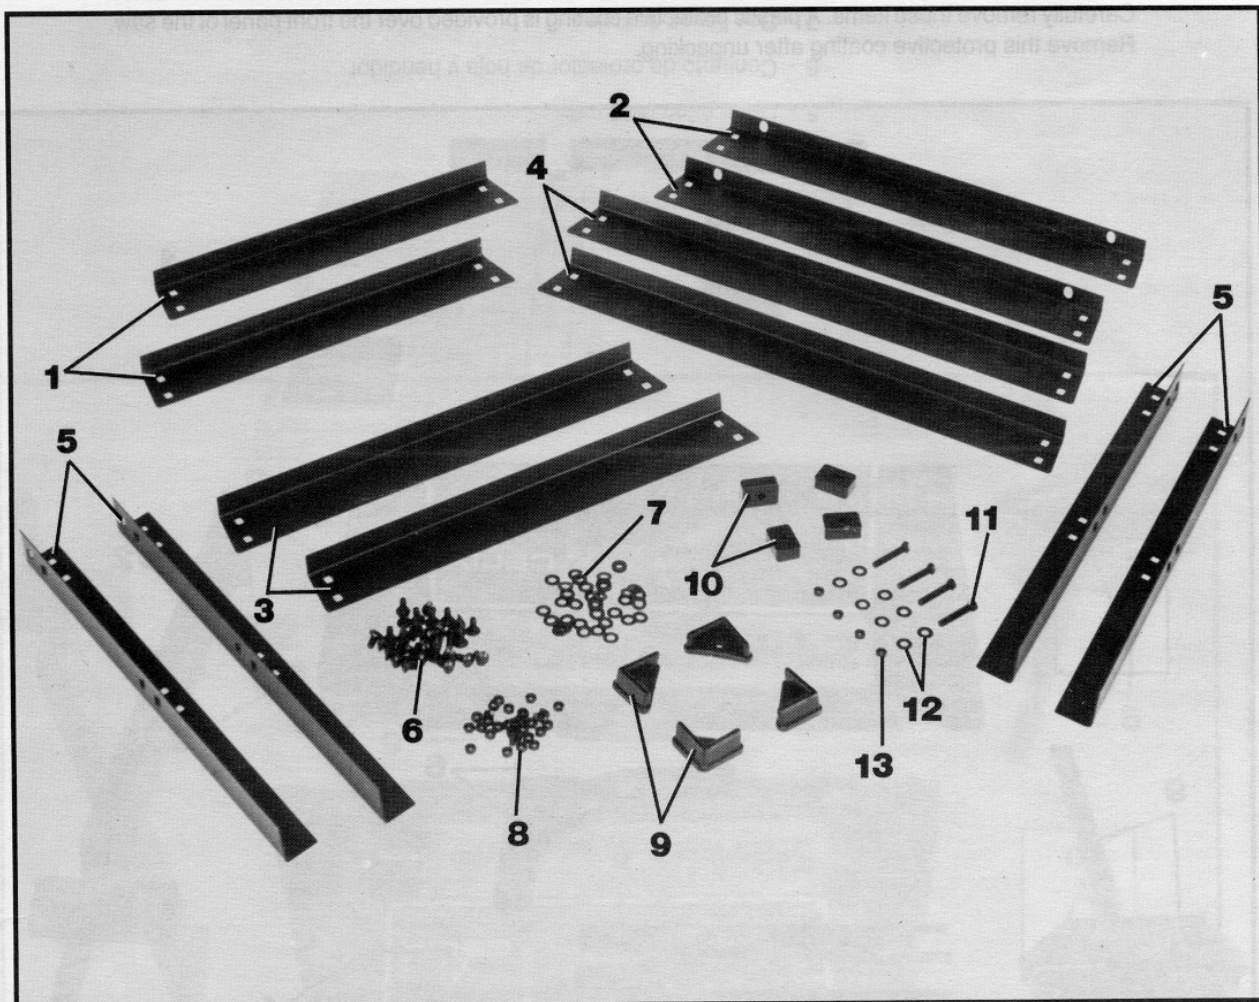

Fig. 3
1. If you purchased the accessory 36-277 steel stand for use with your saw, carefully unpack and separate the stand and all loose items from the shipping container. Fig. 3, illustrates all the items supplied with the accessory 36-277 stand.